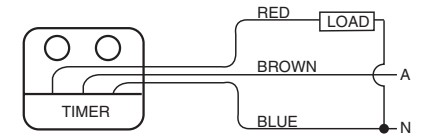

Figure 5: Wiring Diagram
2. Terminate wires as indicated in the wiring diagram (see figure 5)